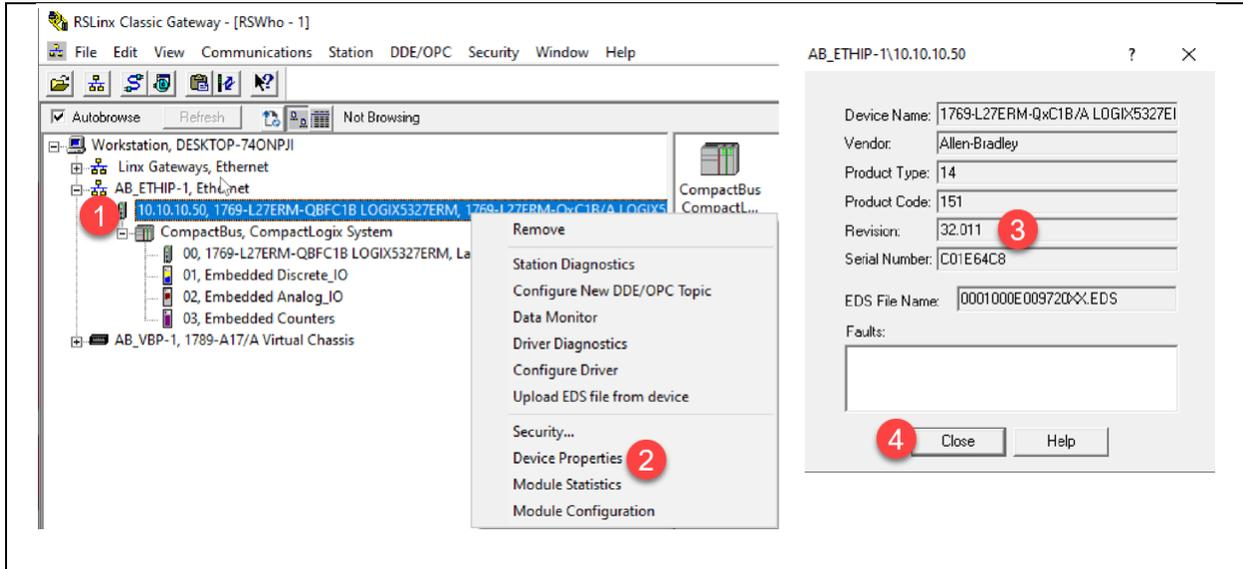

Figure 4. Viewing the Controller Firmware Revision Level with RSLinx.
5. Use RSLinx Classic to view the firmware revision of the CompactLogix controller, as shown in Figure 4.